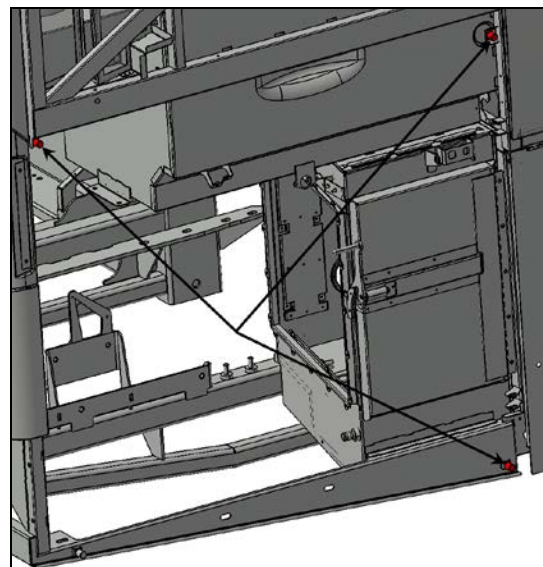
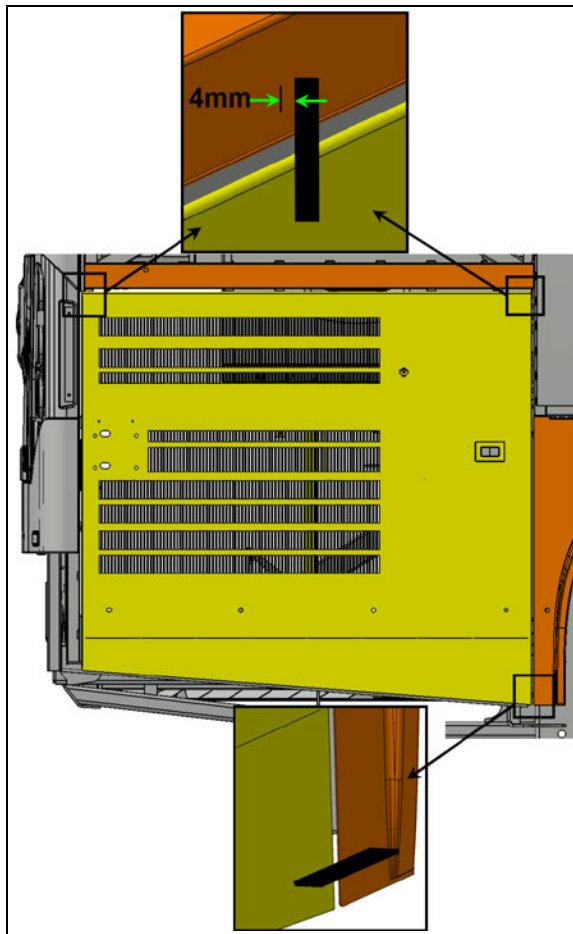

FIGURE 67
FIGURE 68
19. Screw in or out the two upper stoppers so that the upper part of the door exceeds the horizontal member by  $5/32$ " to  $3/16$ " (4mm to 5mm) (see FIGURE 67 & FIGURE 68).